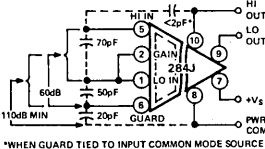

Figure 6. Model 284J Terminal Capacitance and CMR Ratings
**Capacitance:** Interelectrode terminal capacitance arising from stray coupling capacitance effects between the input terminals and the signal output terminals are each shunted by leakage resistance values exceeding  $50kM\Omega$ . Figures 6 and 8 illustrate the CMR ratings at 60Hz and  $5k\Omega$  source imbalance between signal input/output terminals, along with their respective capacitance.